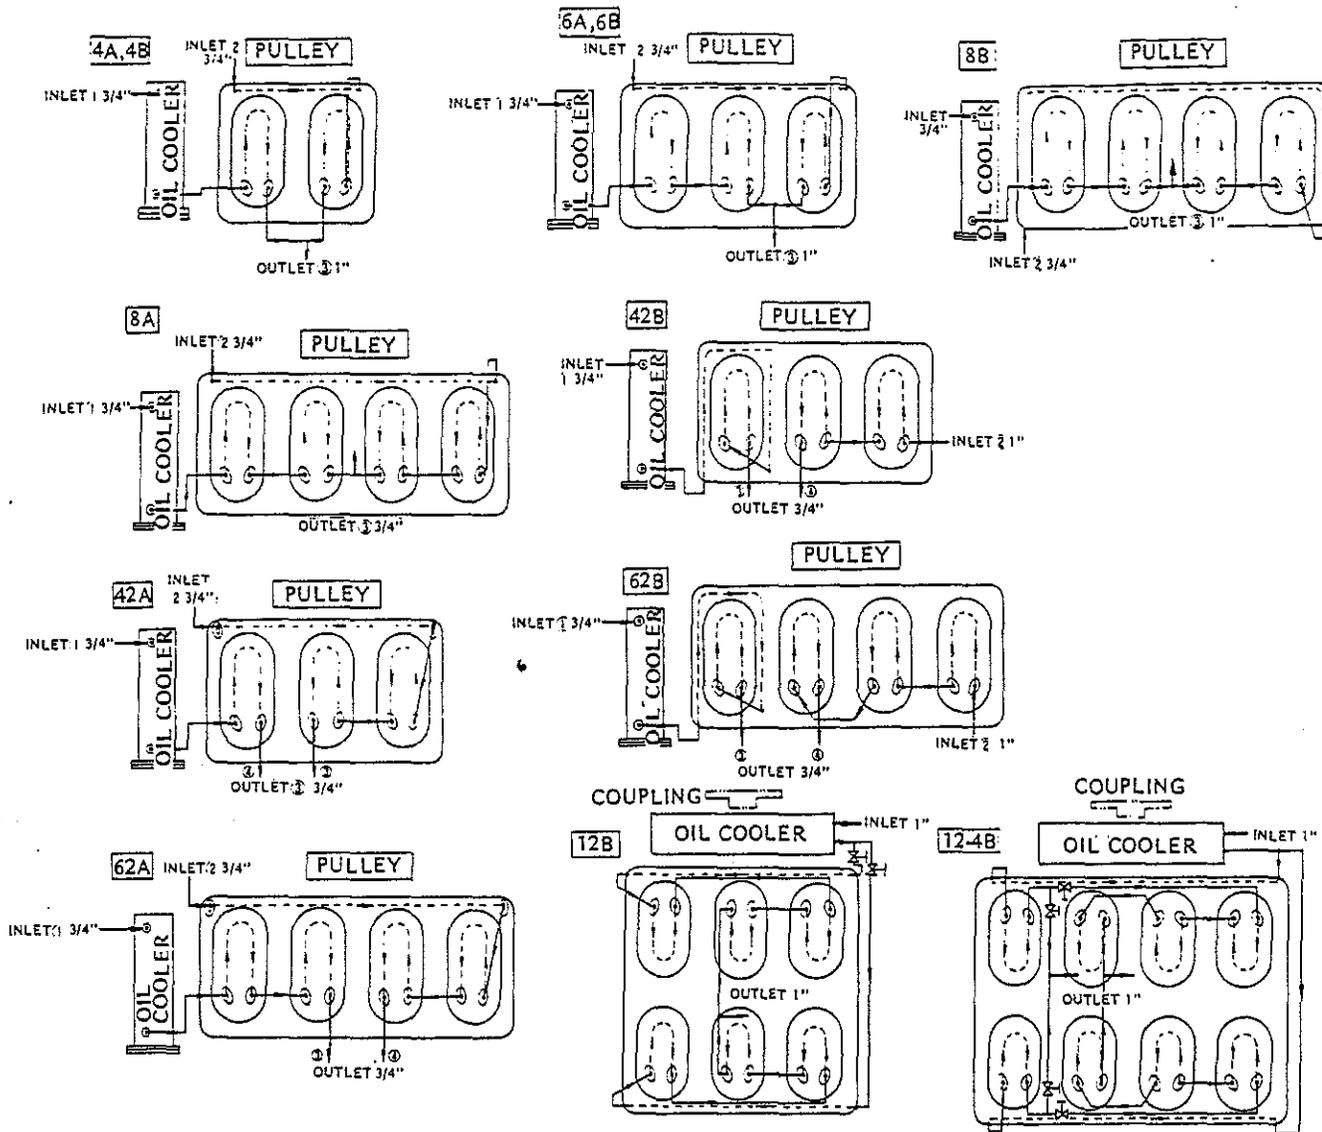

Fig. 50 Standard cooling water flow chart (Jacket head cover)
a) The standard cooling water flow chart is as illustrated in Figure 50.